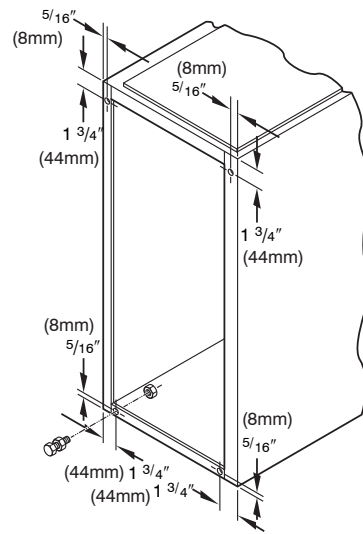

Fig. 12 - Leveling Legs
When furnace is used in upflow position with side inlet(s), leveling legs may be desired. (See Fig. 12.) Install field-supplied, corrosion-resistant 5/16-in. machine bolts and nuts.
1. Position furnace on its back. Locate and drill a 5/16-in. diameter hole in each bottom corner of furnace. (See Fig. 12.) Holes in bottom closure panel may be used as guide locations.